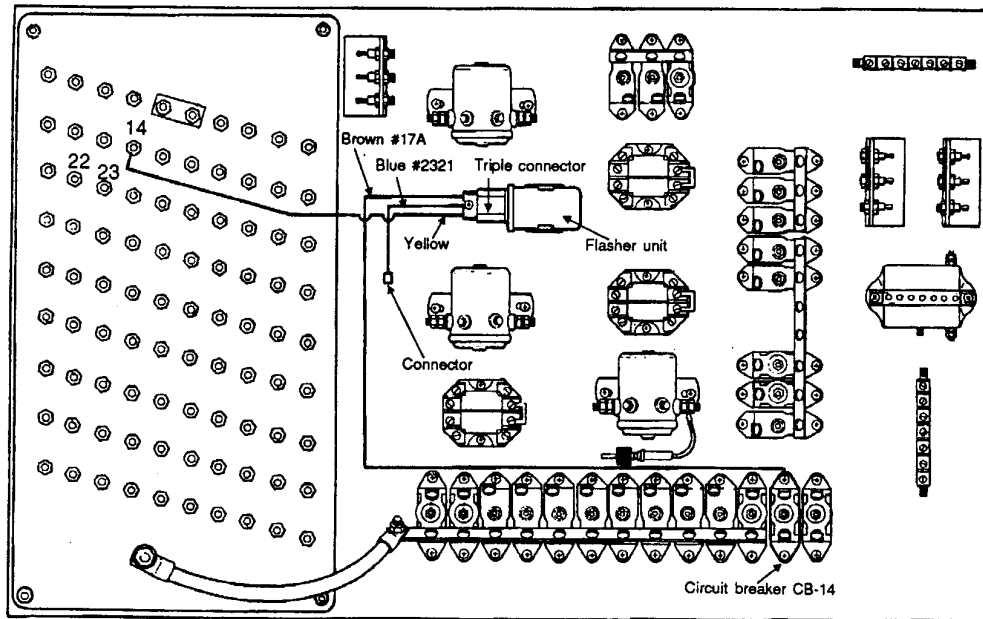

Figure 1
3. Cut the three wires (1 brown # 17A, 1 yellow, 1 blue # 2321) at the triple connector of the warning light flasher unit (see fig. 1).